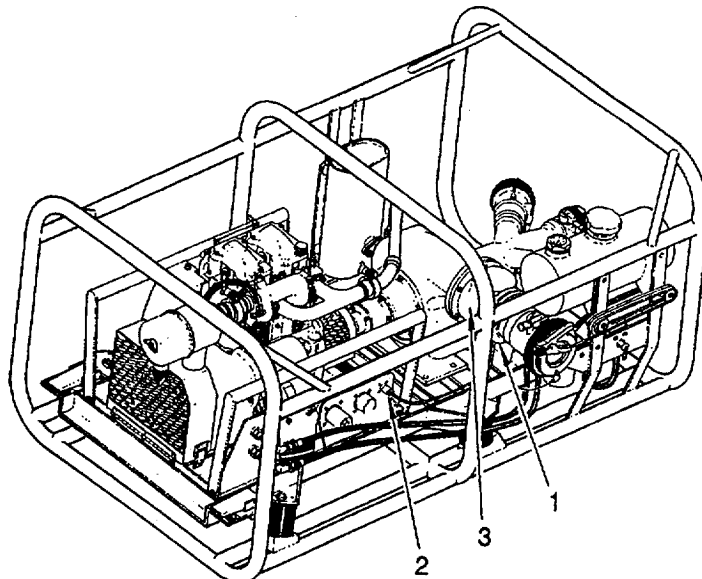

Figure 4-2. Pumpage Overtemperature Sensor Replacement
4.9.2 Replace Pumpage Overtemperature Sensor/Sensor Cable (W103). (Refer to figure 4-2.)